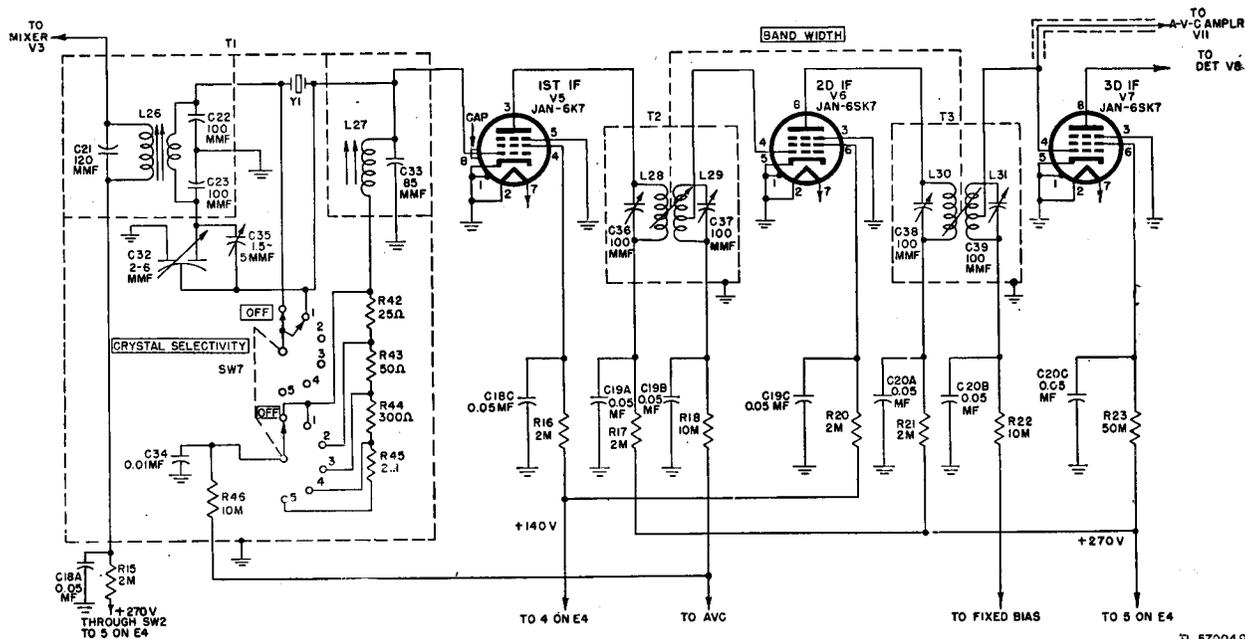

Figure 29. Radio Receiver BC-779-B, functional diagram of i-f amplifier.
### 62. I-F Amplifier (fig. 29)
a. **A-V-C AMPLIFIER TUBE JAN-6SK7 (V11).** The output of the 2d i-f stage, V6, is applied simultaneously to the 3d i-f stage, V7 (fig. 29),